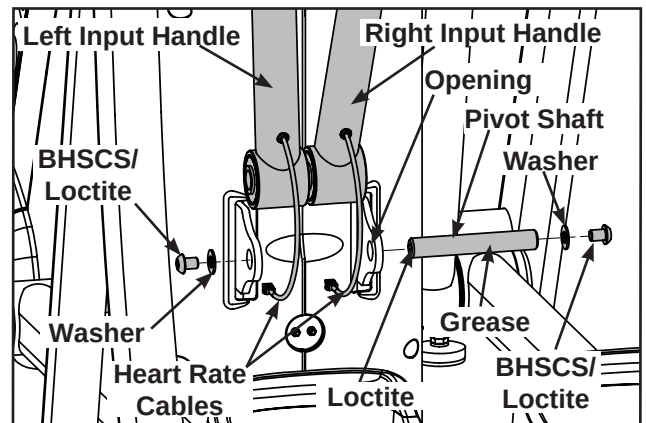

Figure 3
- B. Unplug the heart rate cables. See Figure 3.
- C. Using two 7/32" Allen wrenches, remove the BHSCS and washer from the pivot shaft. See Figure 3.
- D. Slide the pivot shaft through main frame opening to remove input handles. See Figure 3.